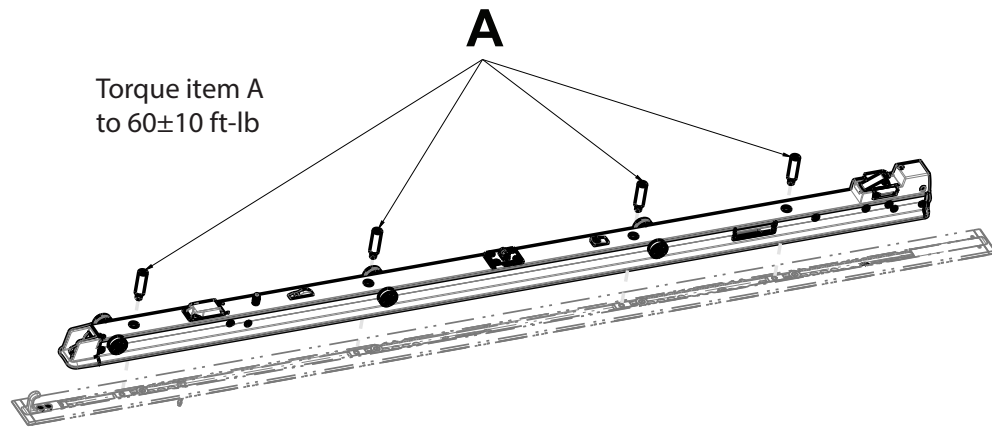

Figure 44 – Remove the anchor mounting posts
3. Using a 3/8" hex driver, remove the four anchor mounting posts (A) that secure the anchor to the floor plate (Figure 44). Save the mounting posts.